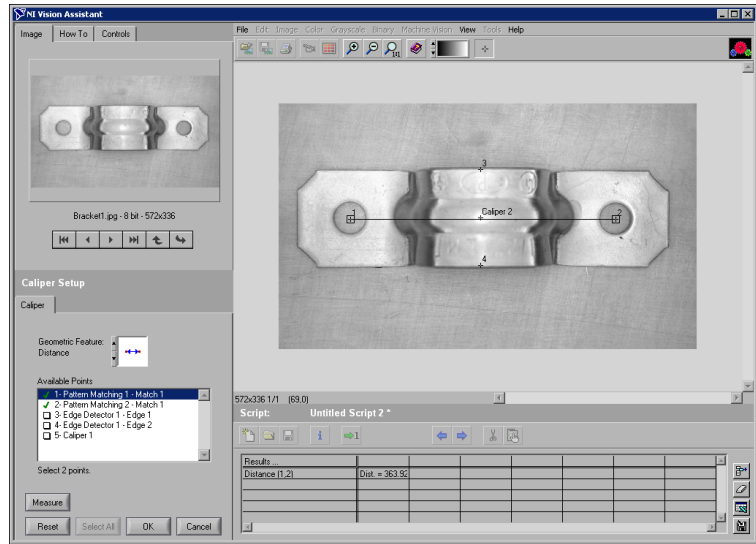

Figure 4-6. Using the Caliper Function to Find Bracket Distance
4. Click **Measure** to compute the distance between the bracket holes and add the measurement to the results table, as shown in Figure 4-6.